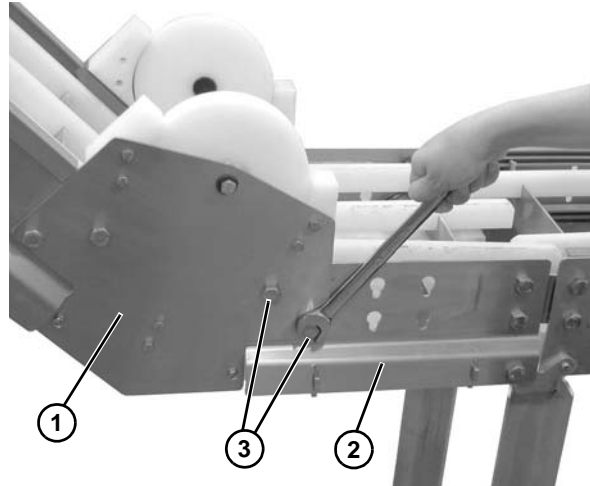
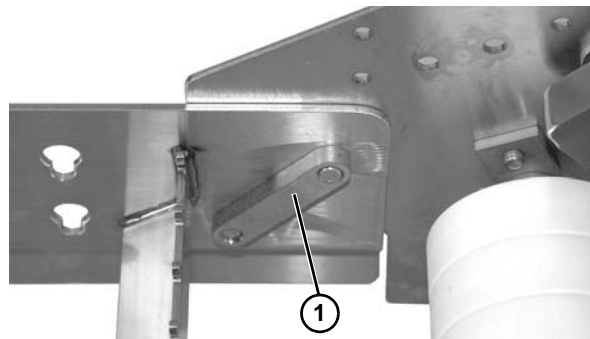

Figure 9
Figure 10
1. Attach lower knuckle (**Figure 9, item 1**) to frame (**Figure 9, item 2**) by using two cap screws (**Figure 9, item 3**) and connector plate (**Figure 10, item 1**) on each side of conveyor.